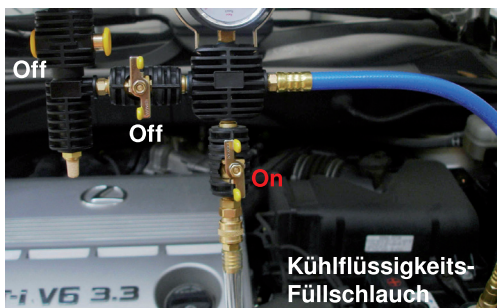

Fig. 9
- Turn changeover valve No.6 to the „ON“ position, so that the coolant can be sucked into the cooling system (see Fig. 9)